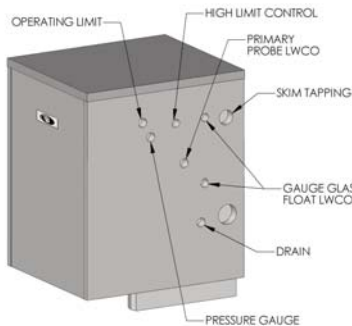

Figure 6.5: Steam Boiler Tapping Location
Install the 3/4" drain valve provided into the drain tapping on the right hand side of the boiler. Refer to Figure 6.5 for tapping location.
- b. **Probe Type:** Install the optional probe type low water cut-off into the 3/4" tapping on the right side of the boiler. Refer to Figure 6.5 for tapping location. The supplied control incorporates a 60 second off cycle after a 15 minute on cycle. This feature allows the water level in the boiler to settle so that the probe can sense a true water level.
- a. Install the operating limit control and pressure gauge in the 3/4" tappings located on the right side of the boiler. Refer to Figure 6.5 for tapping location.
- a. Install the operating limit control and pressure gauge in the 3/4" tappings located on the right side of the boiler. Refer to Figure 6.5 for tapping locations.
- b. (64-09 through 64-12) Install a high limit control in the 3/4" tappings located to the right of the operating limit control. Refer to Figure 6.5 for location.